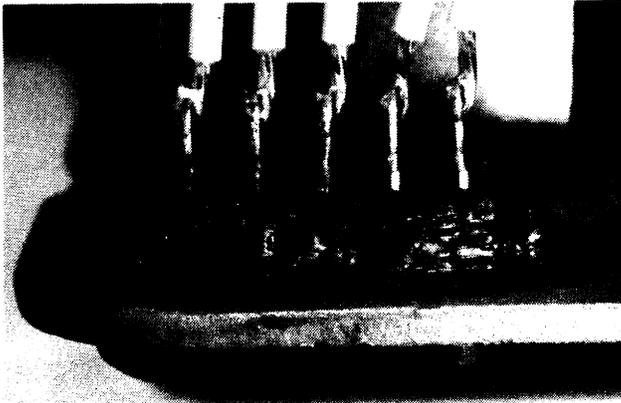

Figure 2 Repaired
5. Use RTV (Silicone rubber sealant, or equivalent, Dow Corning Corp., Midland, Mich. 48640) to seal terminal bushing to the mounting plate. Apply a small bead completely around the bottom of bushing to secure the bushing to the plate as shown in figure 2 (repaired). If RTV is not available, use either Hysol, Epoxi-Patch Kit (general purpose), Hysol Corp., Olean, NY or Conap, Easyoxy Kit (K20 general purpose) 1405 Buffalo St., Olean, NY, or equivalent.